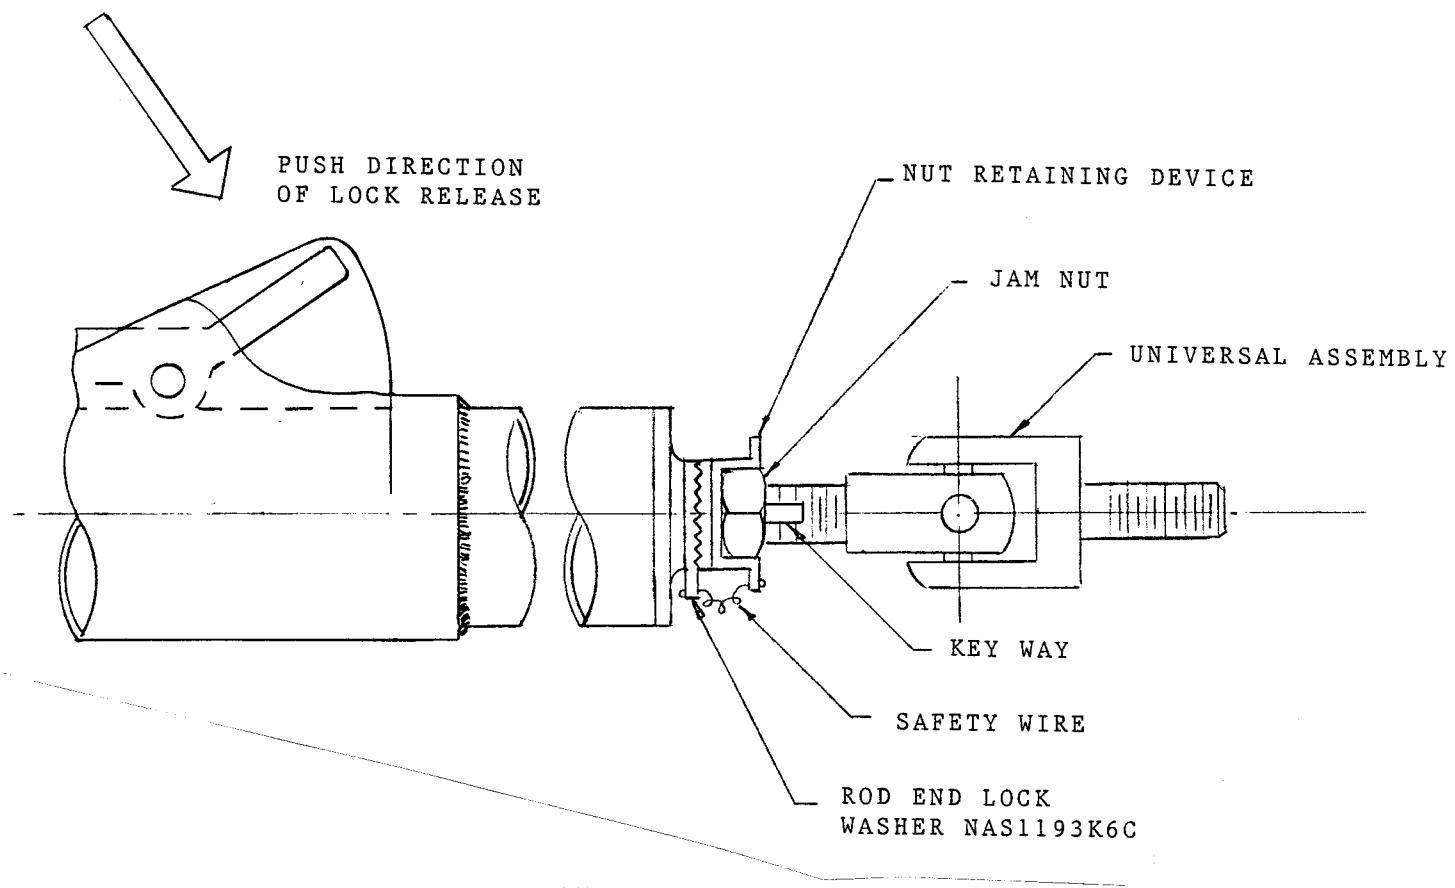

FIGURE 2 - A6201-3 END FITTING
- D. Place new rod end lock washer, part number NAS1193K6C, on keyed shaft of universal as shown in Figure 2.
- F. Adjust the orientation of the universal keyway so that it is rotated 90 degrees from the push direction of the lock release on the outer tube, as shown in Figure 2. Tighten the jam nut in the nut retaining device.